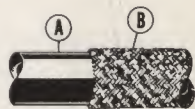

Fig. 60
Braid covered hose (Fig. 60) is simply rubber tubing (A) reinforced by a woven cotton covering (B).